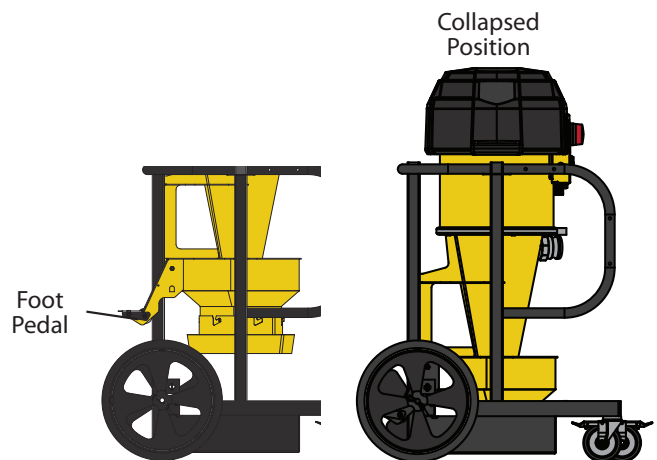

FIG. 2
Ensure that the Cyclone and Cart Assembly (G) is in the collapsed position by pressing down on the foot pedal until the release latch clicks in place [FIG. 2].